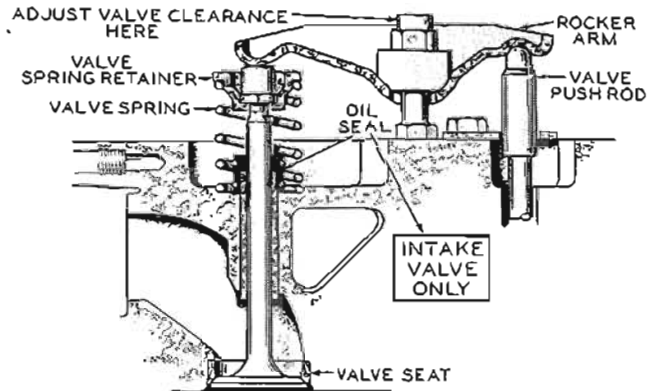

Figure A-27. Cross Section Of Valve Assembly.
c. Disassembly (refer fig. A-27).